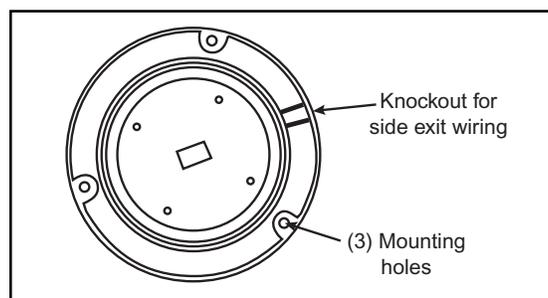

Figure 2. Beacon Base
1. For side exit wiring, remove the knockout from the bottom of the flange as shown in Figure 2.